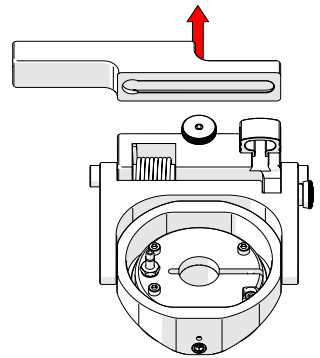

Fig. 137 - Remove bracket
3. If attached, remove the mounting bracket (*Fig. 137*).